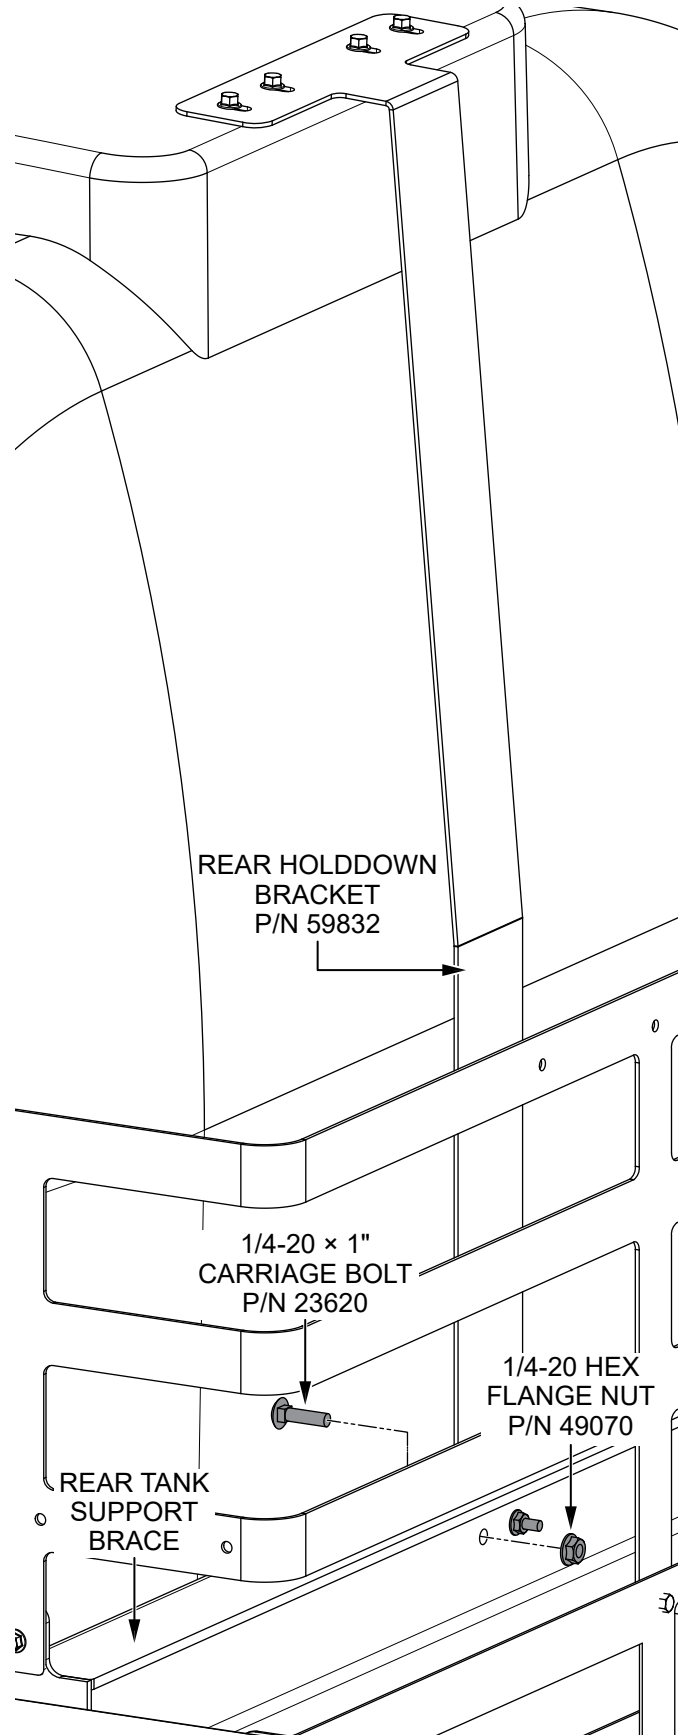

Figure 12. Secure Rear Holddown Bracket To Rear Tank Support Brace
3. Use two 1/4-20 × 1" carriage bolts (P/N 23620) and two 1/4-20 hex flange nuts (P/N 49070) to secure the lower portion of the **rear holddown bracket (P/N 59832)** to the **rear tank support brace** as shown in Figure 12. Tighten the hardware securely.